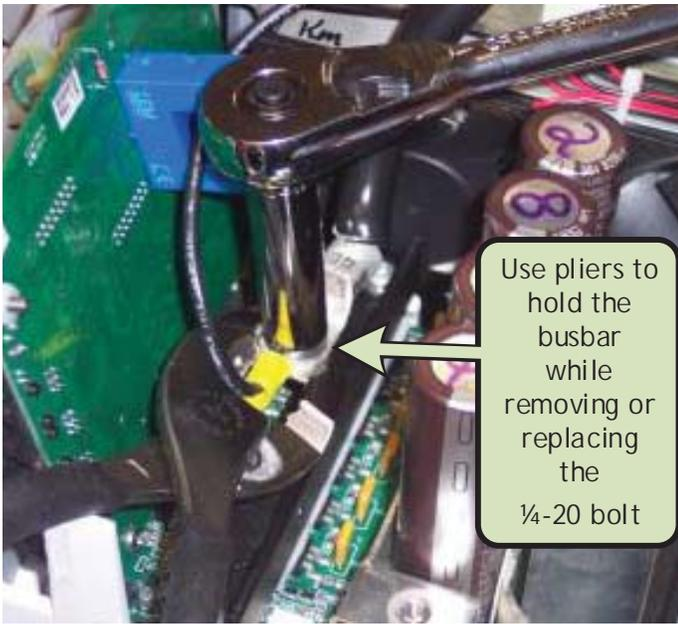
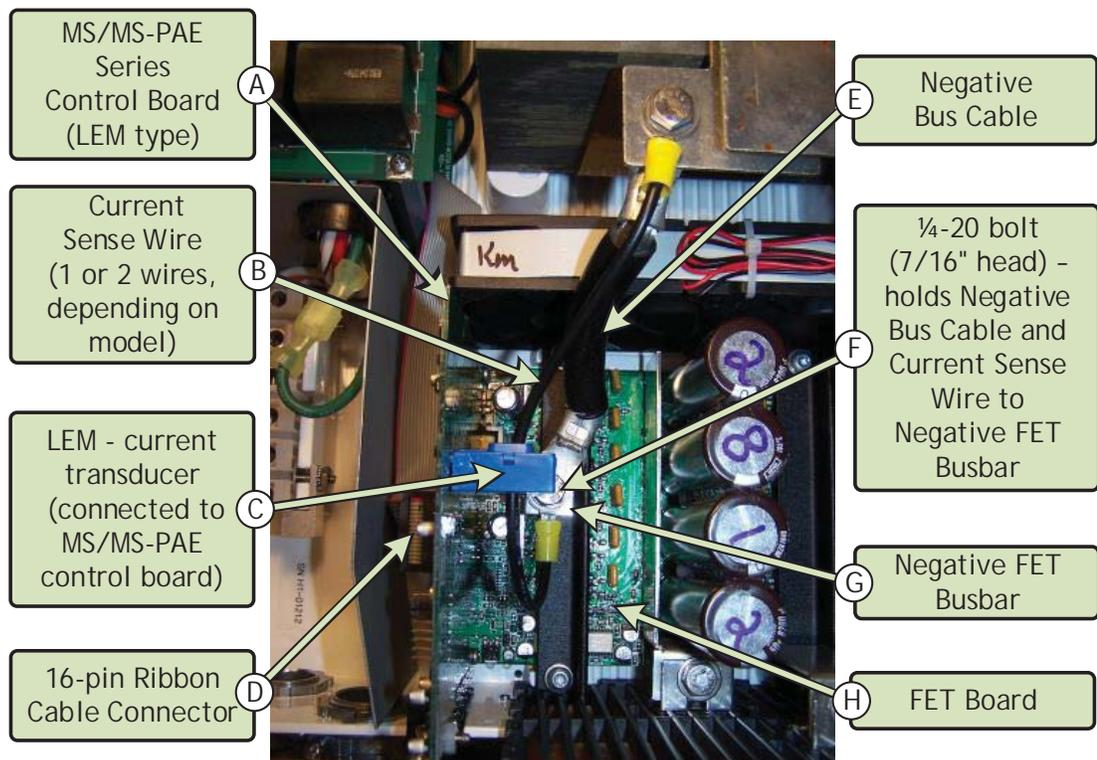

Figure 4, Preventing Busbar from Twisting
Figure 7, MS/MS-PAE Series Control Board Compartment
2. Locate the MS/MS-PAE Series control board (Figure 7, Item A) in the inverter. Verify that it has a blue DC current transducer (referred to hereafter as the "LEM") on the back. See Figure 7, Item C.
4. Firmly pull up on the control board by its top edge (or upper corners) to remove it from the bottom 16-pin connector on the FET board. The current sense wire (Figure 7, Item B) will still be attached through the LEM on the back.
6. Move the control board aside to provide access to the ¼-20 bolt (7/16" head) screwed into the negative FET busbar—see Figure 7, Item F. Remove this ¼-20 bolt, and at the same time use a pair of pliers to hold the negative FET busbar in place. This will prevent the busbar from twisting while this bolt is being removed. See Figure 4.
7. After removing the bolt, pull the loose side of the current sense wire (Figure 7, Item B) out of the LEM.
1. Remove the new control board from its antistatic bag and place the loose side of the current sense wire (Figure 7, Item B) back through the LEM.
4. Reconnect the negative bus cable and the current sense wire (running through the LEM) to the negative FET busbar using the 1/4-20 bolt. This connection must be torqued to 130 in.-lbs. Use a pair of pliers to hold the negative FET busbar in place while this bolt is being tightened to prevent the busbar from twisting or breaking. See Figure 4 for reference.